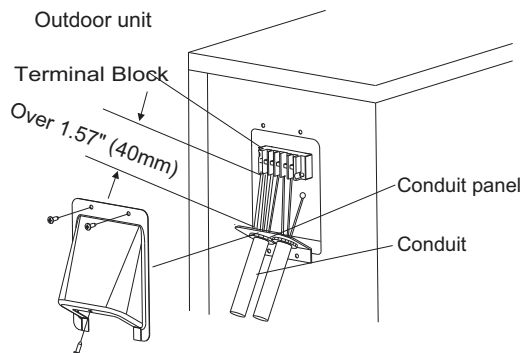

Fig. 13 —Field Wiring
5. Connect the conduit to conduit panel (see Fig.13).